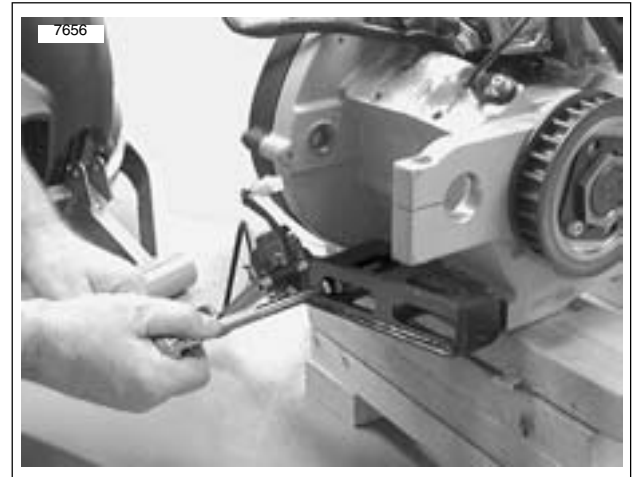

Figure 3-21. Side Stand Bracket
2. See Figure 3-21. Install side stand and bracket assembly. See 2.29 SIDE STAND.